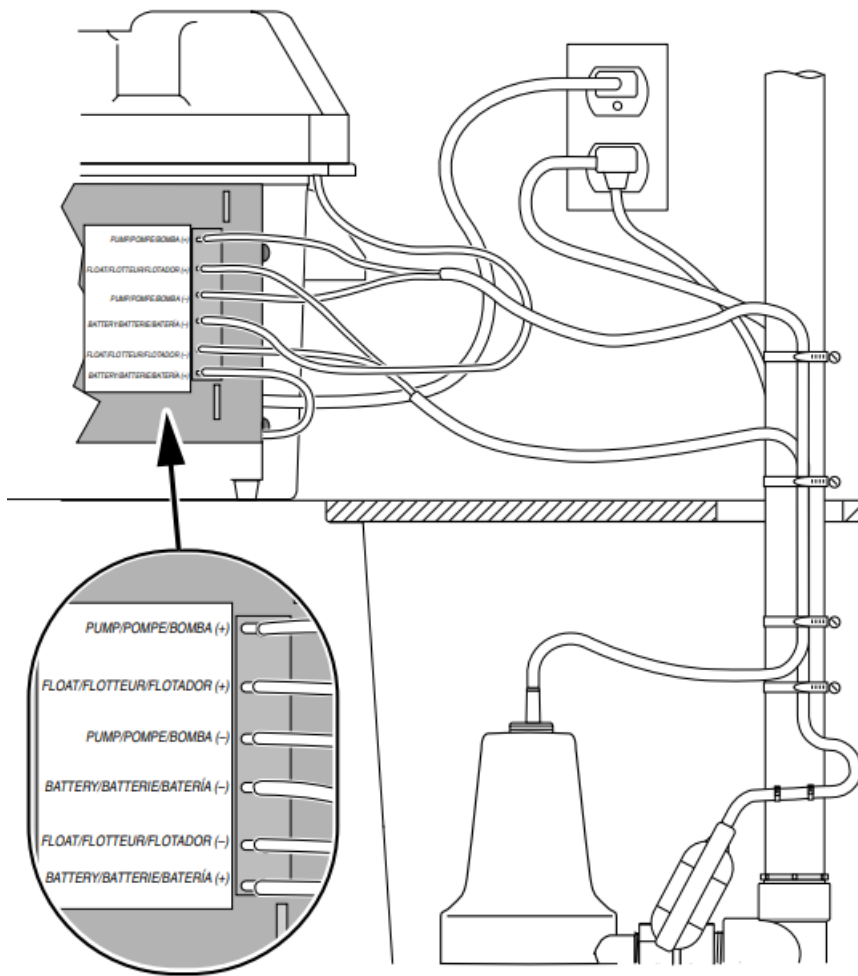

Figure 11 – Wiring Connections FG200-A1
1. Connect charger as shown in Table IV and Figure 11.